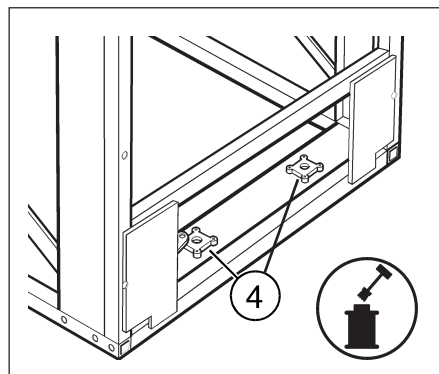
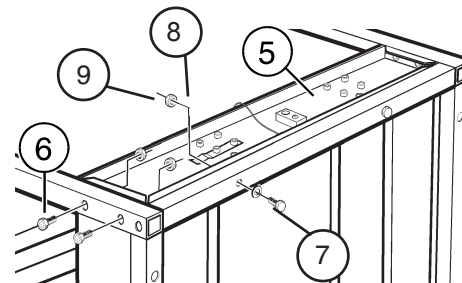

Figure 10: Applying Anti-Seize Compound
Figure 12: Placing the Front Bearing Panel
Step 8: Apply Anti-Seize compound to the inside of the bearing blocks (Item 4, Figure 10).
Step 9: Insert a turner shaft assembly (Item 3) into each bearing block (Item 4) of the bearing panel (Figure 10 & 11). Carefully place the front bearing panel (Item 5) over the two turner shafts and between the side frames (Figure 12). Secure loosely with Items 6, 7, 8 and 9.